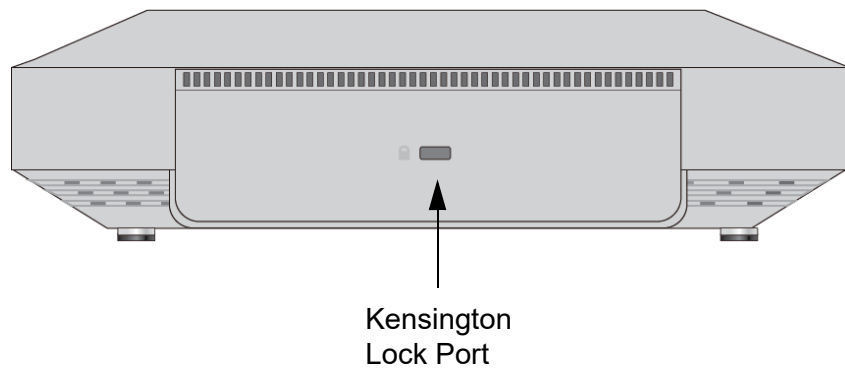

Figure 21. Kensington Lock Port Location
1. Follow the instructions provided with the vendor's anti-theft device packaging for the installation. Refer to Figure 21 for the Kensington lock port location.